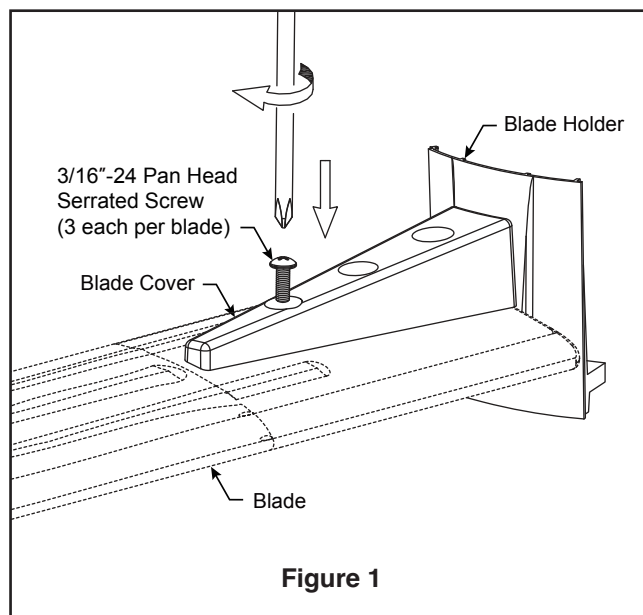

Figure 1
- ☐ 1. Assemble canopy by rotating key slot in canopy over shoulder screw in hanger bracket, taking care not to pinch the wires. Fully assemble and tighten second shoulder screw that was previously removed, then tighten another shoulder screw. (Figure 1)
1. Lay flat side of blade holder on a flat surface with the inside of the blade holder arm facing up. This is the side with the threaded posts and pitched foot. Position the blade over the blade holder with the threaded posts showing. Make sure the bottom edge of the blade is fully seated against the blade holder. Place blade cover on top of the blade, positioning the holes over the threaded posts. With a phillips screwdriver, thread three screws into the posts but do not fully tighten. Prior to final tightening, position the centerline of the blade holder with the center of the end of the blade. Tighten three screws to secure the blade. (Figure 1)
- ☐ 1. Remove the six screws in the support bracket at the bottom of the motor assembly. Assemble the light plate assembly to the support bracket using the previously removed screws. (Figure 1)